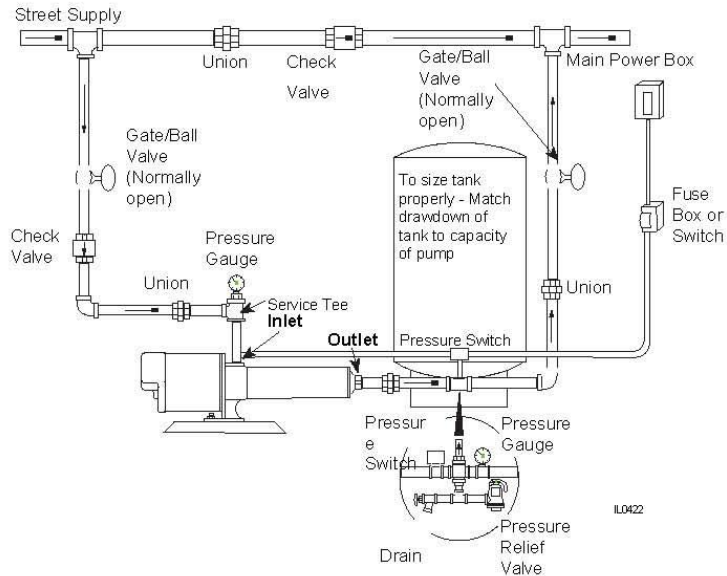

Figure 6
1. Refer to Figures 6, 7, and 8 for typical installations.
1. On pressure boost systems, locate the pump so that there will always be a positive supply of water to the pump (See Figures 6, 7 and 8).
3. Install a check valve as shown in Figure 6. Be sure check valve flow arrows point in the direction of water flow.
5. A pressure gauge installed in the inlet pipe close to the inlet port, (See Figure 6) will show if enough water is being supplied to the pump. See Operation Section - Priming, Pressure Boost Installations.
Priming is automatic when pump is connected to a pressure source such as a hydrant or city main (See Figures 6, 7 & 8).
- If you installed a pressure gauge at the pump inlet, a reading of 2 psi minimum should show whenever the pump is in operation (See Figures 6, 7 & 8). This reading insures that there is an ample supply of water into the pump inlet housing.